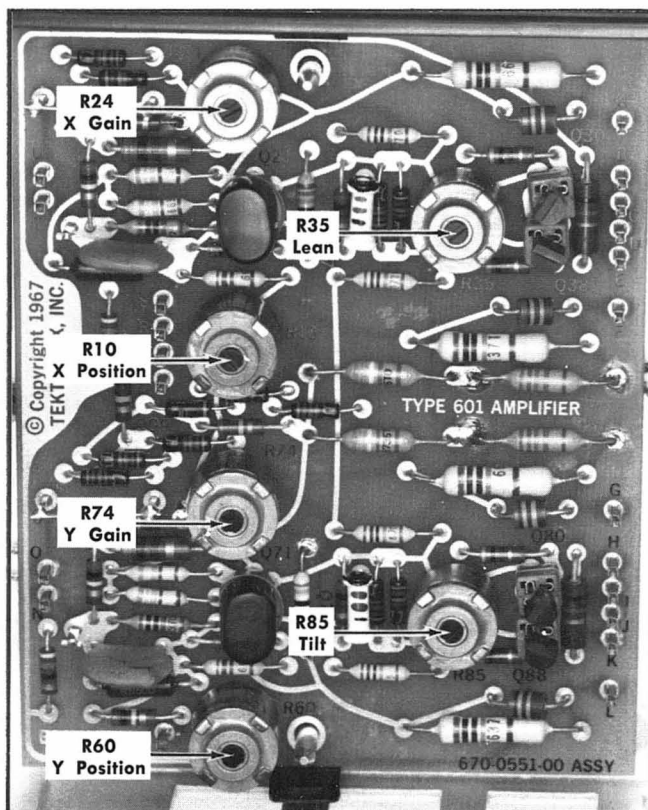
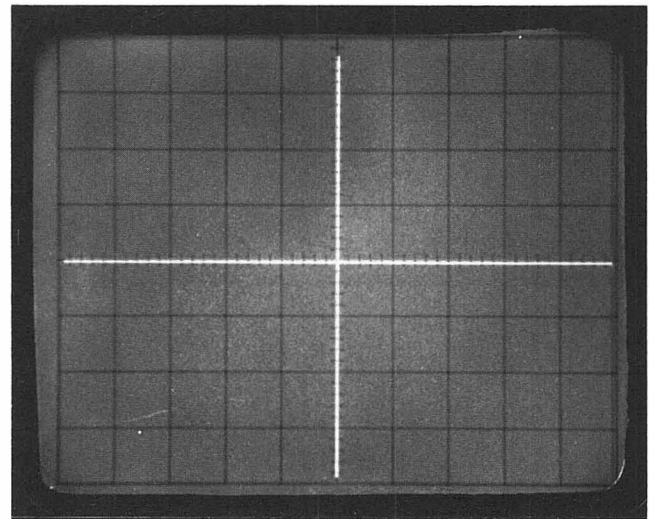

Fig. 6-9. Location of Deflection Amplifier controls.
Fig. 6-10. Typical display when checking Tilt and Lean.
e. Using the X and Y positioning controls (see Fig. 6-9), place the spot in the lower left-hand corner of the screen.
c. ADJUST—R85, Tilt (Fig. 6-9), so that the trace is parallel to the horizontal graticule centerline. See Fig. 6-10.
g. ADJUST—R35, Lean (Fig. 6-9), so that the trace is parallel to the vertical graticule centerline.
c. Set the test oscilloscope Normal-Single Sweep switch to Normal and adjust the X Gain control, R24 (Fig. 6-9), for 5 centimeters of display. Position the left edge of the display to the left-hand edge of the graticule.
h. Set the standard amplitude calibrator for a 0.5-volt square-wave output and adjust the Y Gain control, R74 (Fig. 6-9), for 5 centimeters of display. Position the bottom of the display to the bottom graticule line.